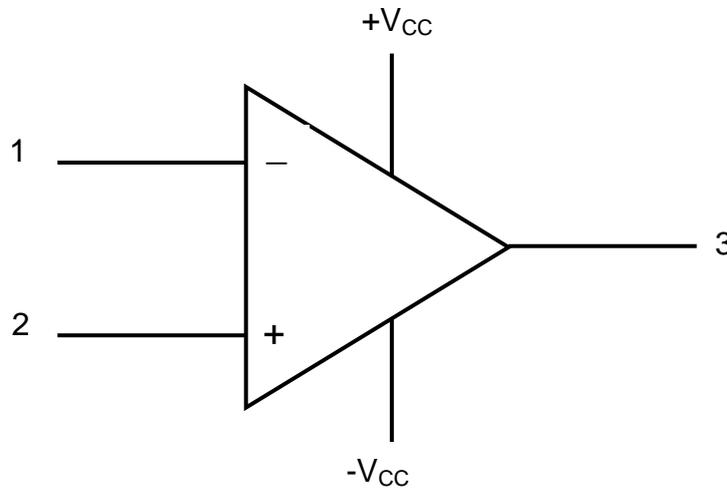

FIGURE 7.1: OP-AMP SYMBOL
7.2 FIGURE 7.1 below is the symbol of an op-amp. Identify the labels marked 1, 2 and 3.